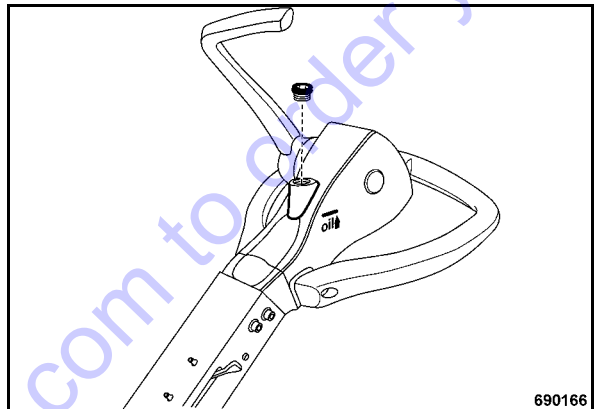

Fig. 62
- Adjust the steering rod with height adjustment (Fig. 62) so that the area with the level inspection plugs is horizontal.